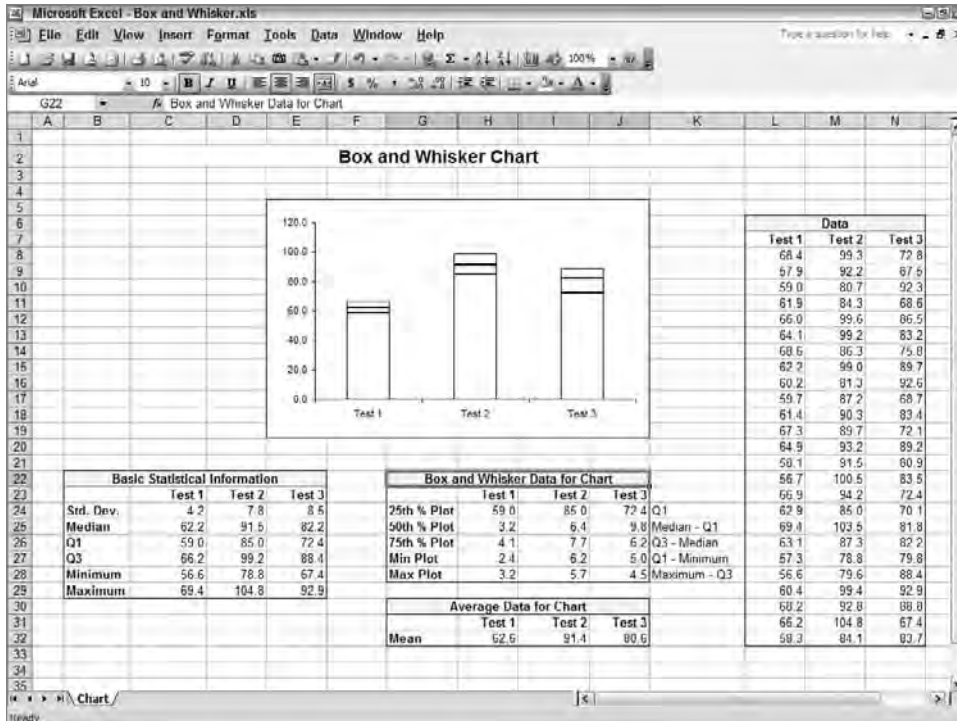

Figure 24.2: The basic stacked column chart, with 25th, 50th, and 75th percentiles.
6. Delete the gray chart background, the gridlines, and the legend. Format the column segments so that they have no fill color. Your chart should now look somewhat like Figure 24.2.